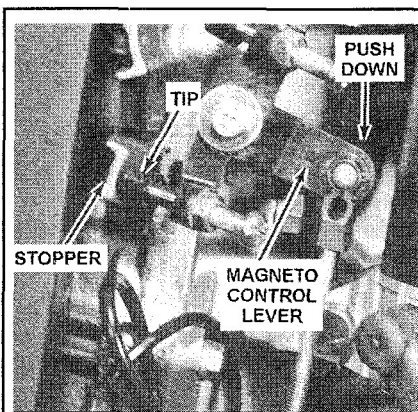

Fig. 181 Push the magneto control lever downward until the lower screw tip barely makes contact with the stopper
- ◆ See Figures 181, 182 and 183